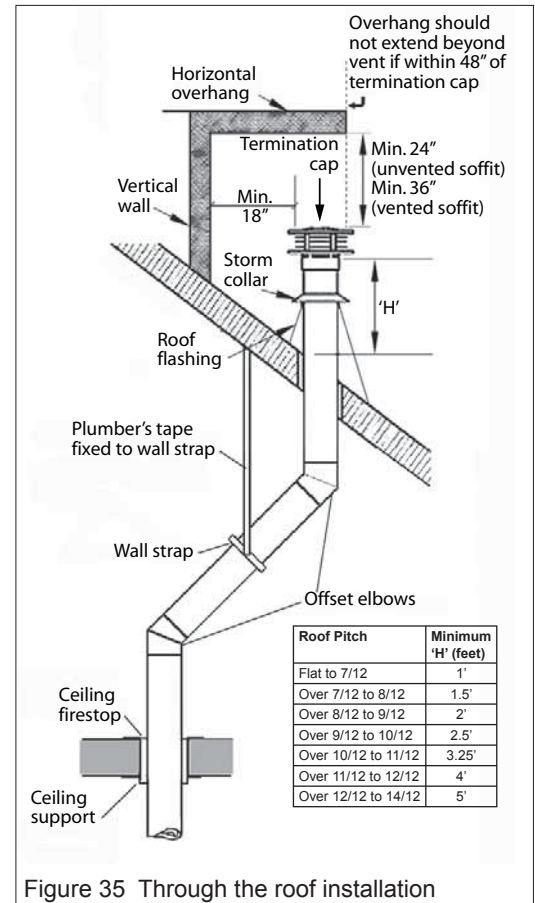

Figure 35 Through the roof installation
- The distance from the roof to the lowest terminal discharge opening (“H” in figure 35) depends on the roof pitch and must be in accordance with the manufacturer’s instructions supplied with the termination unit. *Note: The venting system for these appliances is considered to be a **Special Venting System**. The rule in the Installation Code requiring a minimum vent height of 2’ above any portion of a building within 10’ does not therefore apply.*
- Determine the position where the vent will pass through the roof. If directly above the position where it penetrates the ceiling, drop a plumb from the roof to the small hole in the ceiling and mark the roof at this spot. If rafters or other obstructions will prevent a vertical exit or if clear attic space is desired, the roof outlet can be offset using 45° elbows. See figure 35.
- Fit vent accessory elbows and pipe lengths as required up through ceiling support boxes and firestops. If installation includes offset, support the offsetting pipes every 3’ (1 m) with wall straps. See figure 35.